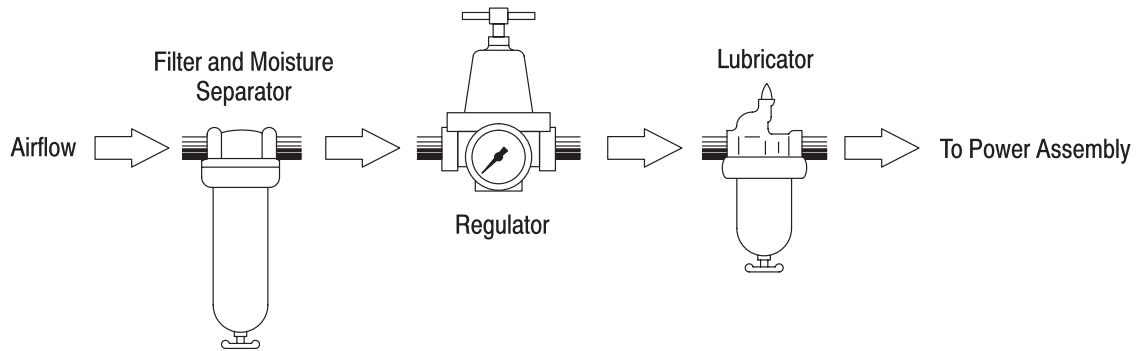

Figure 3
4. Connect the air tube to an approved air source. It is recommended that a filter–regulator–lubricator unit with the lubricator adjusted to the minimum setting be used with the power bench assembly. Refer to Figure 3.